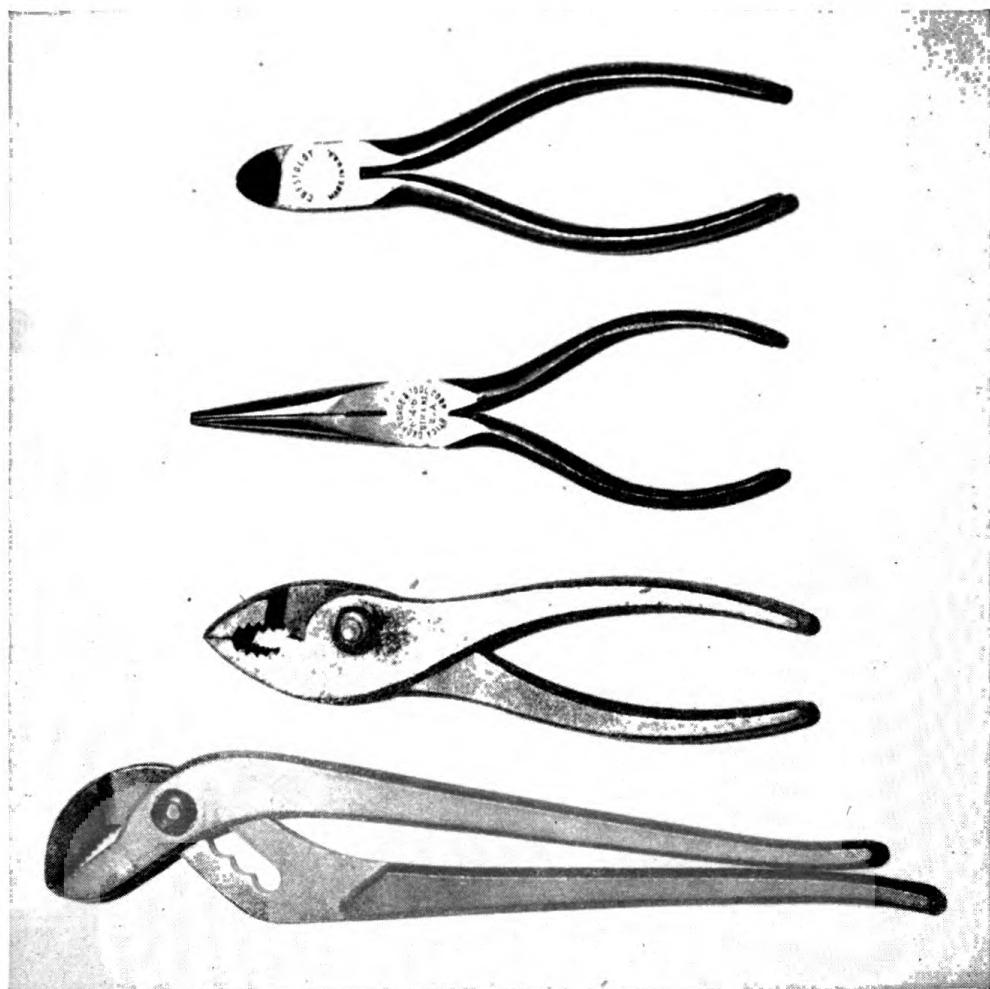

Figure 13. Types of pliers.
b. **TYPES.** (1) *Diagonal-cutting pliers* are used to cut safety wire, remove cotter pins, and do similar work.
(4) *Water-pump pliers* are made with extra-long handles and therefore have a very powerful grip. (See fig. 13.)